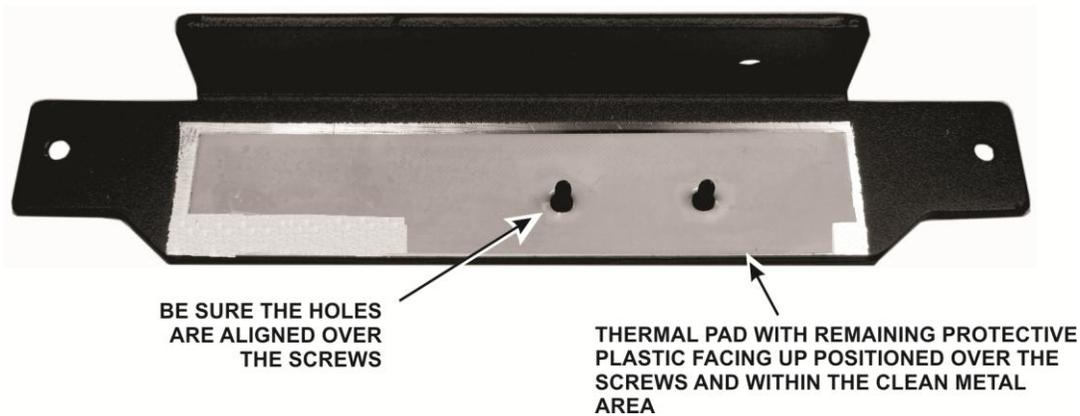

Figure 6. Placing the Thermal Pad on the Heat Sink.
□ Carefully position the thermal pad on the heat sink as shown in Figure 6. Be sure the adhesive side is against the metal and the clear plastic protective film is facing upward. Rub the center area of the thermal pad to help it adhere to the metal.